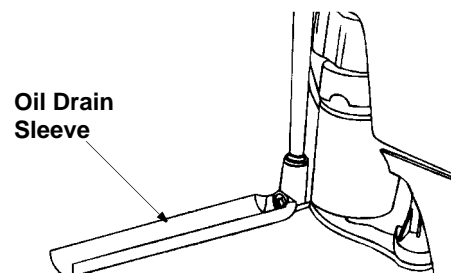

Figure 18
- To drain the oil, snap small end of the oil drain sleeve onto oil sump. See Figure 18.